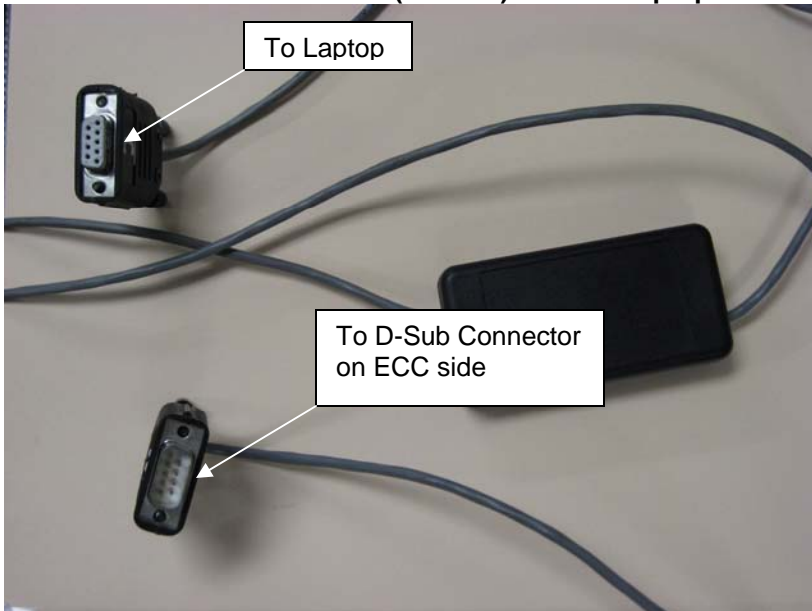

Figure 2 (MCC #35-0202)
2. Attach MCC interface cable (35-0202) between laptop and ECC. (see figure 2)